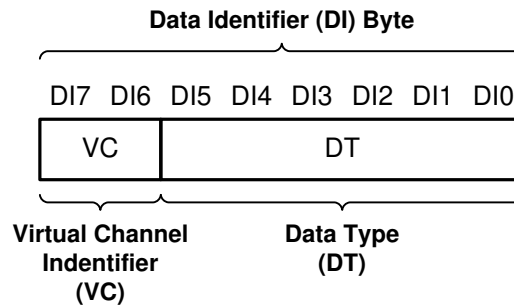

图 7-10. CSI-2 Data Identifier Structure
The DS90UB962-Q1 MIPI CSI-2 protocol interface transmits the data identifier byte containing the values for the virtual channel ID (VC) and data type (DT) for the application specific payload data, as shown in 图 7-10. The virtual channel ID is contained in the 2 MSBs of the data identifier byte and identify the data as directed to one of four virtual channels. The value of the data type is contained in the 6 LSBs of the data identifier byte. When partnered with a DS90UB935-Q1 serializer, the Data Type is passed through from the received CSI-2 packets. When partnered with a DS90UB933-Q1 or DS90UB913A-Q1 the received RAW mode data is converted to CSI-2 Tx packets with assigned data type and virtual channel ID.